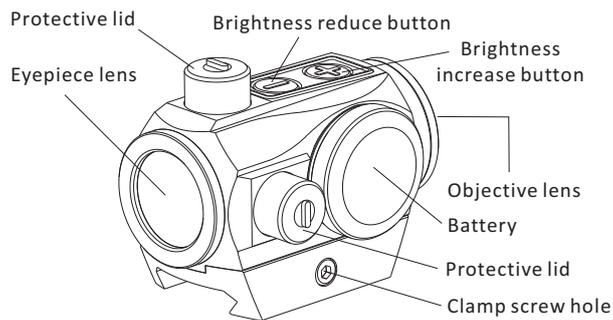

Fig1 PARALOW HS403G Red Dot Sight
3. First open the protective cap (see Fig1) , position slot type screwdriver on the slotted screw , then rotate the screw to right or left for adjustment. Each left or right click is for one shift moving equivalent to 0.5 MOA value.